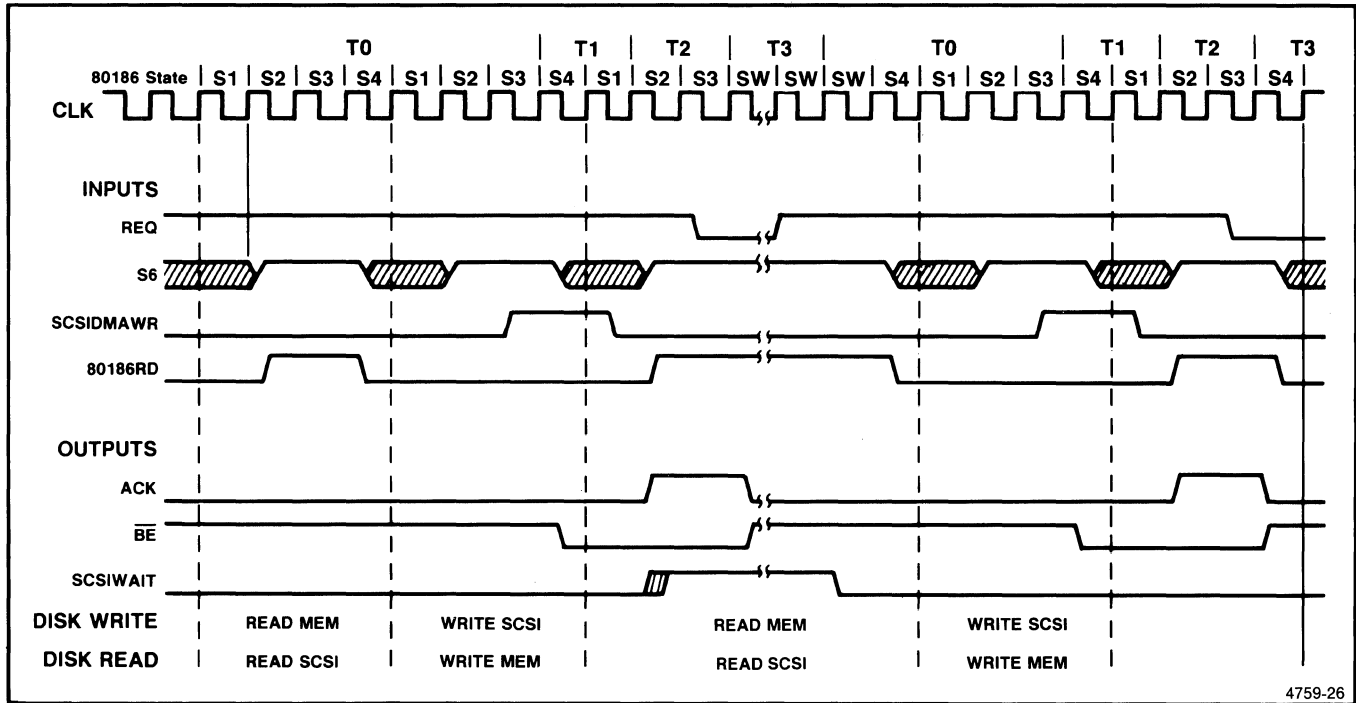

Fig. 9-5. SCSI data transfer.
Data transfers to the SCSI bus are done through 80186 DMA transfers and a DMA state machine. The 80186 DMA transfers are not synchronized. This means that the DMA cycle (read the source, write the destination) will occur at full processor speed regardless of the validity of the data on the bus. The purpose of the state machine is to insert wait states in the read cycle of the DMA cycle until the SCSI bus REQ(H) line is asserted, indicating that the target is ready to send or receive another byte. Figure 9-5 shows a SCSI data transfer.